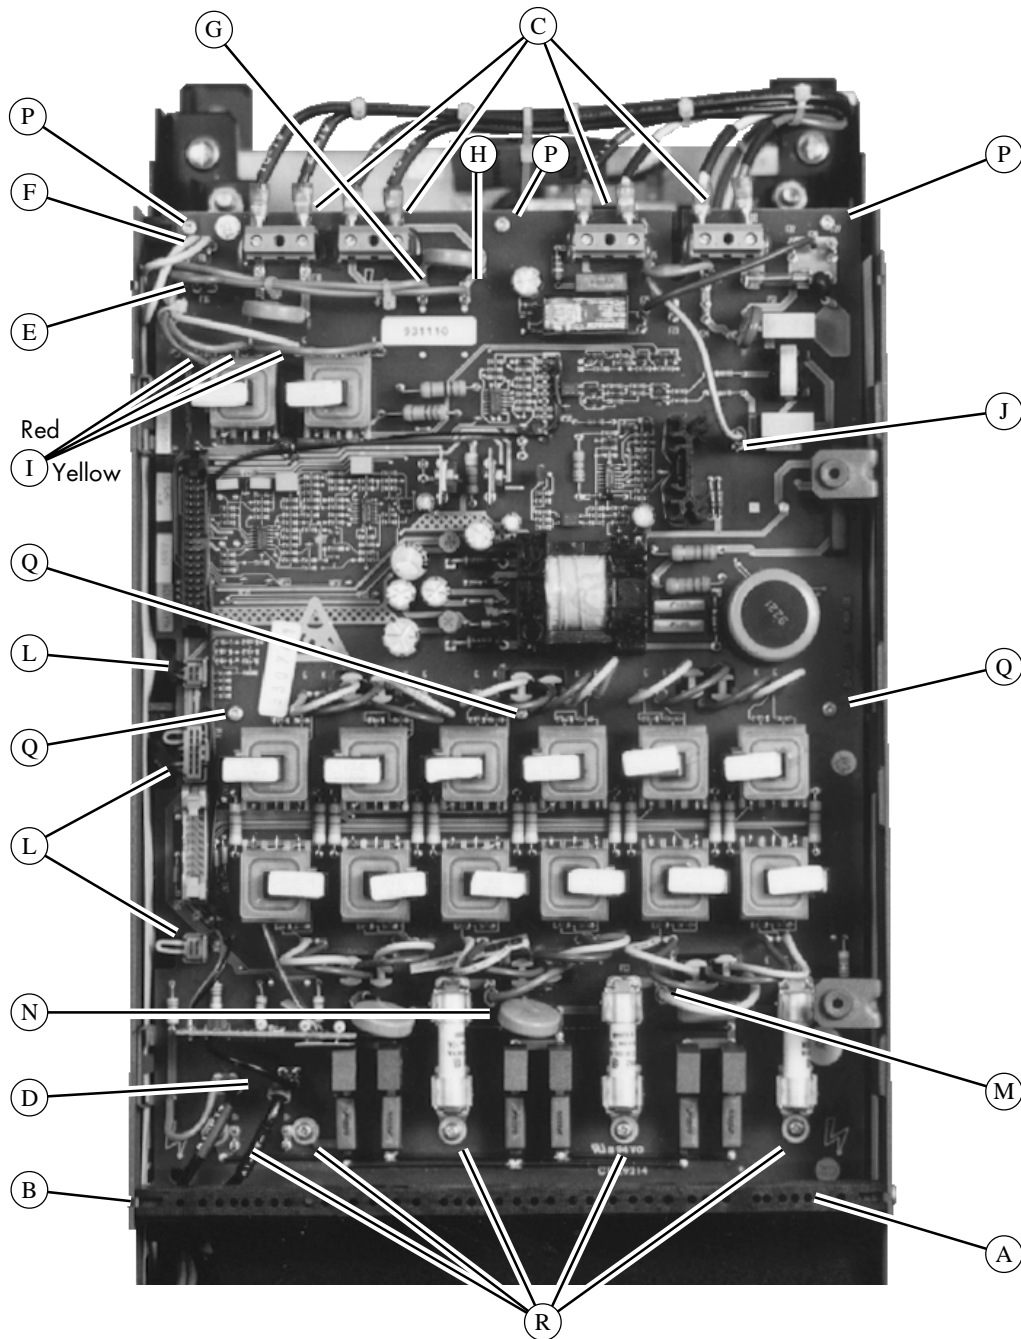

Figure 7.9 - Inside View of 590 Controller
3. Remove the two support bars (A) held in place by the phillips head screws. Flat head screws are located on the left side (B). Do not remove the screws retaining the power supply board. The top support bar is removed in Figure 7.9.
- a. Field, contactor, and controller supply wires (C) in terminal blocks D1 through D8 at the top of the drive.
- b. Armature sense wires (D) from the 0.10 male tabs.
8. To reinstall the power supply board (or a replacement), reverse the order of the steps. Be sure to pull the wires (identified in Figure 7.9 as J, L, M, and N) through the board before fastening it in place.